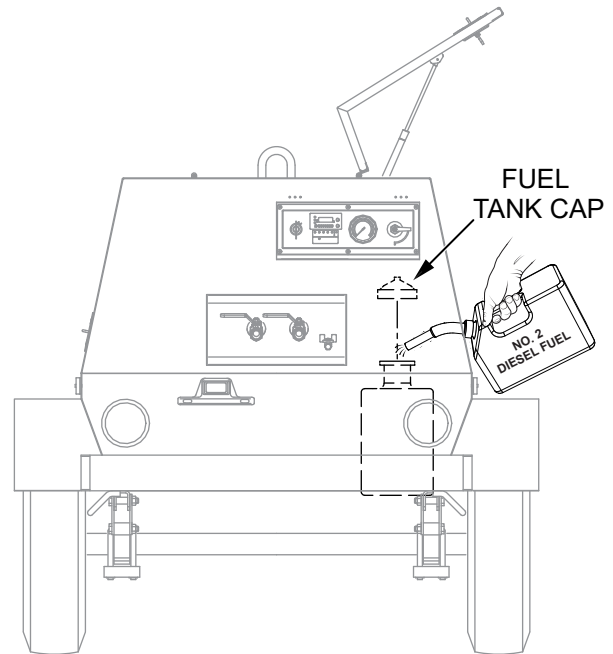

Figure 16. Fueling The Air Compressor
2. Open the enclosure door as shown in Figure 16, remove the **fuel tank cap**, and fill the fuel tank. Fuel tank capacity is **10.6 gallons (40.0 liters)**.